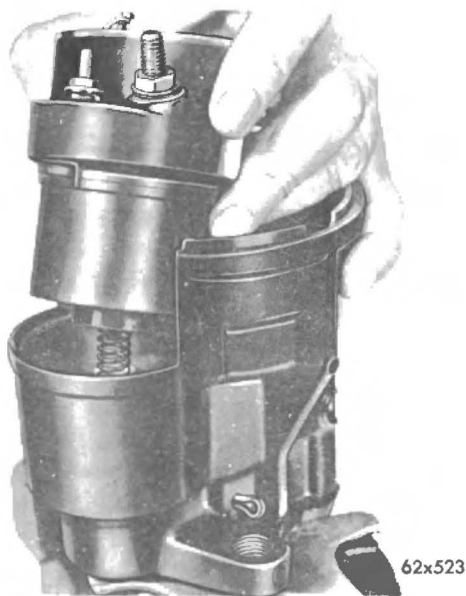

Fig. 22 Installing Solenoid Coil, Sleeve and Brush Holder
(14) Carefully enter the solenoid coil and solenoid coil sleeve into the bore of the gear housing and position the brush plate assembly into the starter gear housing (See Fig. 22). Align the tongue of the ground terminal with the notch in the brush holder.